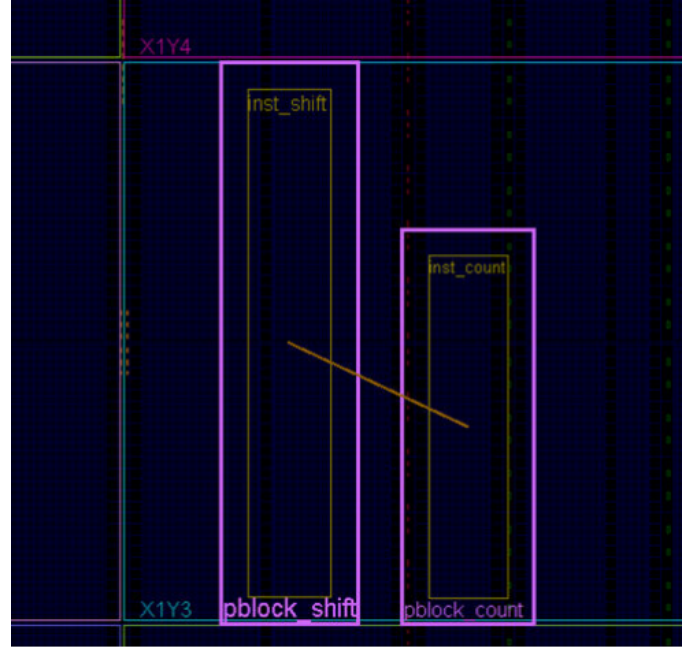

Fig. 3. Pblocks define in a 7-series device. The left supports Reset After Reconfiguration while the right doesn't. Taken from Xilinx's User Guide 909.
*Pblock* defines what resources are available for a particular RM. Fig. 3 shows an example of Pblocks defined in a 7-series device.